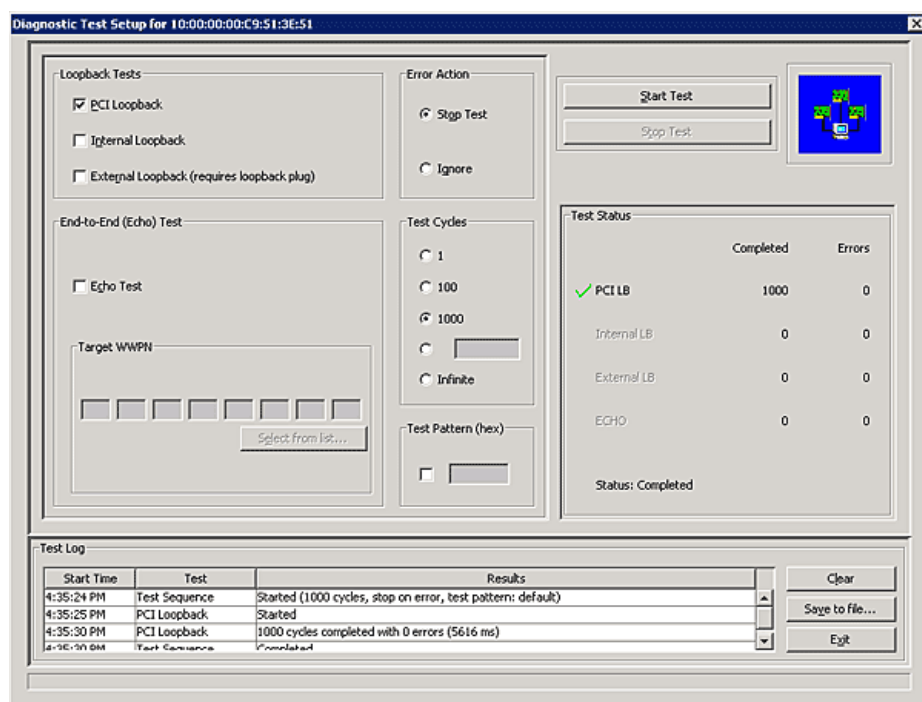

Figure 13-8 Diagnostic Test Setup
Click **Advanced Diagnostic Tests** on the Diagnostics tab (Figure 13-1 on page 236) to view the Diagnostic Test Setup dialog box (Figure 13-8 on page 243).
To run a loopback test, use the Loopback Test section of the Diagnostic Test Setup dialog box (Figure 13-8 on page 243).
2. Select the **Diagnostics** tab (Figure 13-1 on page 236) and click **Advanced Diagnostics Tests** (Figure 13-8 on page 243). From the Loopback Test section of the dialog box, choose the type of Loopback test you want to run and define the loopback test parameters.
2. Select the **Diagnostics** tab (Figure 13-1 on page 236) and click **Advanced Diagnostic Tests** (Figure 13-8 on page 243).
1. After running a test from the Diagnostic Test Setup dialog box (Figure 13-8 on page 243), click **Save to File**. The Select Diagnostic Log file Name dialog box appears. The default name of a saved file is DiagTest.log.
2. Browse to the desired directory, change the log file name if you want and click **Save**. See Figure 13-8.